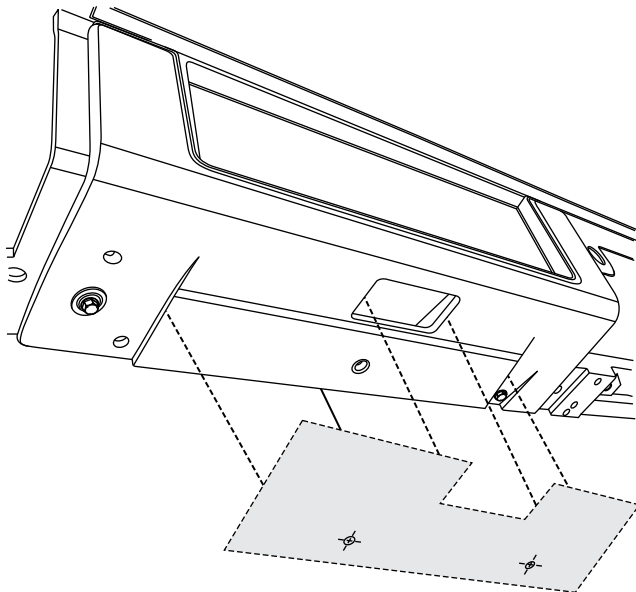

Figure 14
1. Cut out the template provided on Page 27. Slide the template under the dash as shown in Figure 14, below. Align the left and right sides of the template with the crease in the dash as shown in Figures 14 & 14a, below. Align the bottom edge of the template along the bottom edge of the dash as shown in Figures 14 & 14a, below.